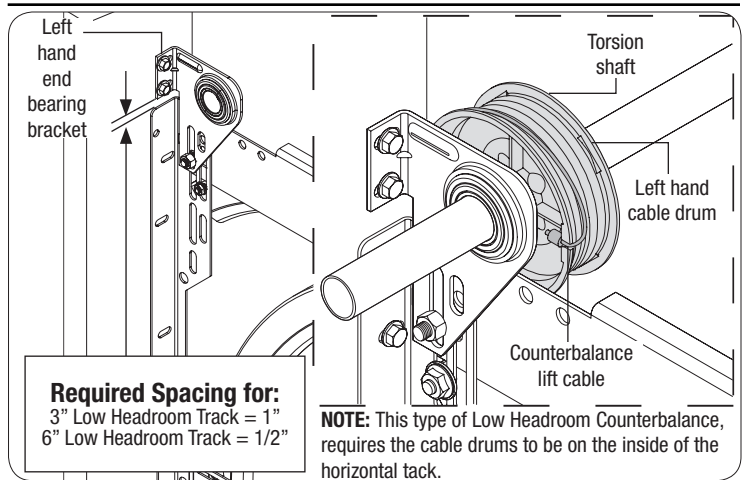

FIGURE 4.3
**IMPORTANT!** MAINTAIN SPACING SPECIFIED BETWEEN END BEARING FIXTURES AND FLAG ANGLES, AS SHOWN IN FIG. 4.3 TO ENSURE PROPER CLEARANCE OF COUNTERBALANCE.